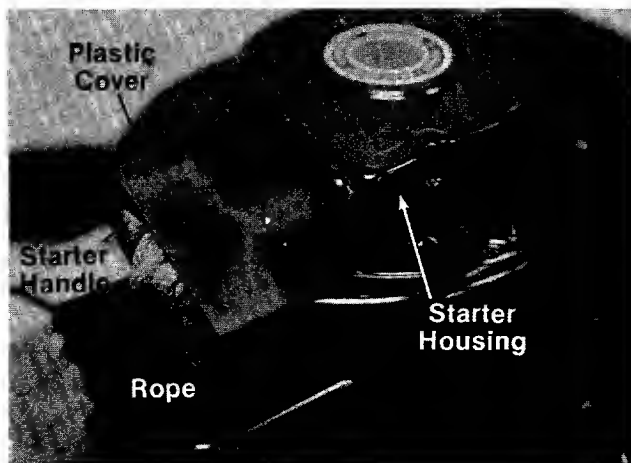

FIGURE 11.
10. The starter rope and handle may be secured with a plastic cover for shipping purposes. Remove the plastic cover and discard. See figure 11.